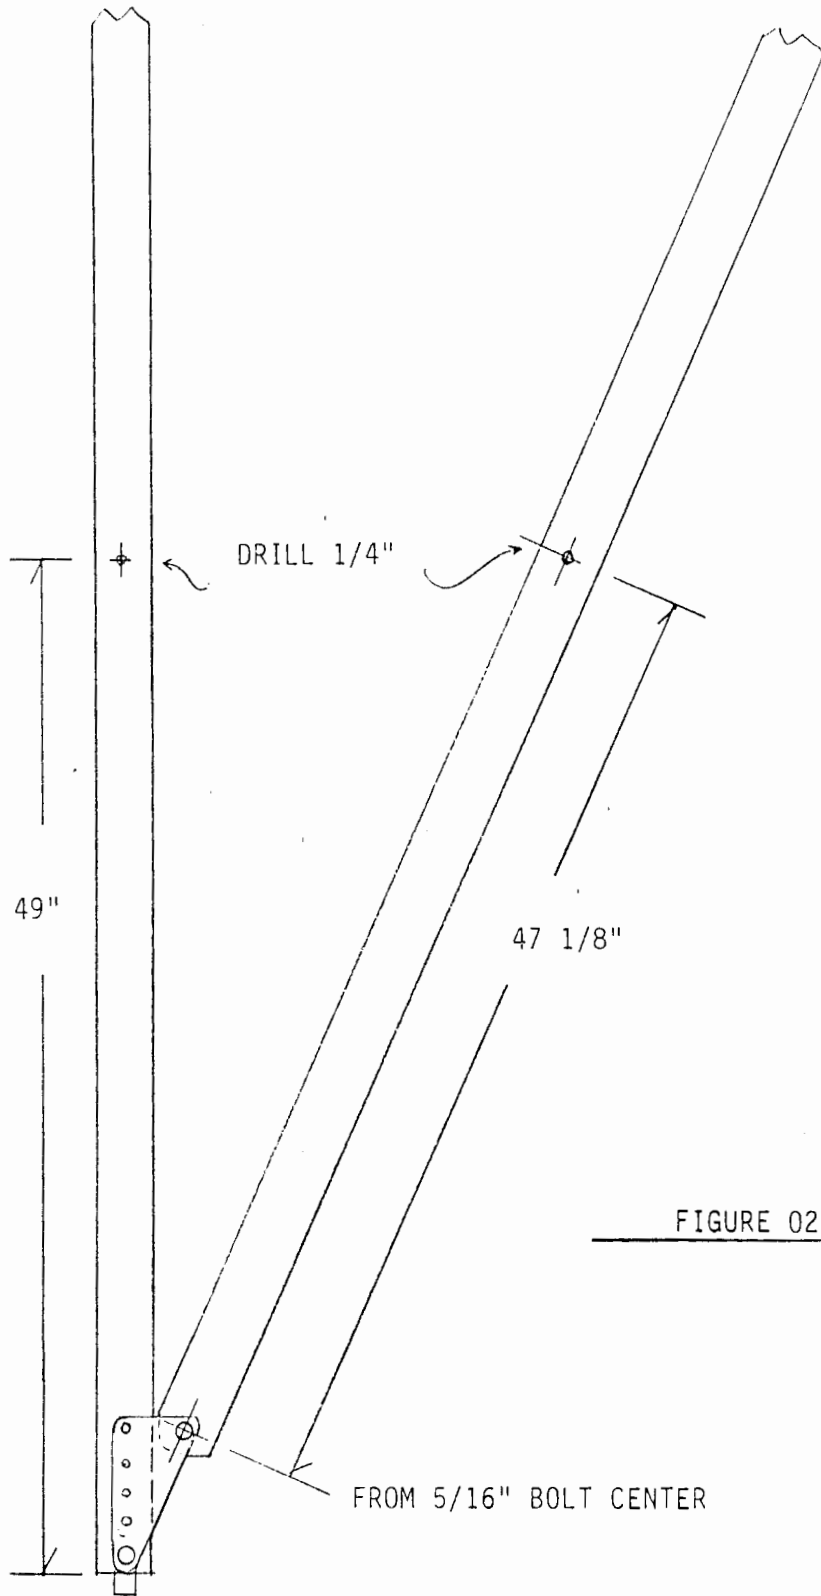

FIGURE 026-013
13. Locate a 1/4" hole through the aft lift strut for the jury struts eyebolt 47 1/8" from the 5/16" bolt center. Use the template to locate chordwise on the strut. See Figure 026-013.